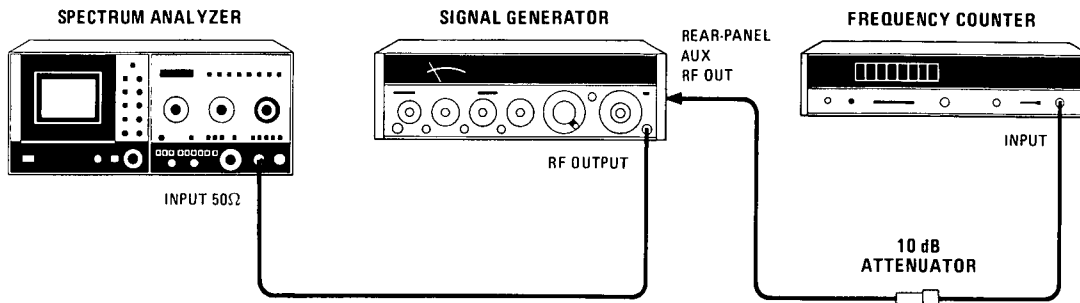

Figure 4-5. Resolution Bandwidth Accuracy Test Setup
- n. Connect frequency counter as shown in Figure 4-5 and set frequency counter resolution to 10 Hz.